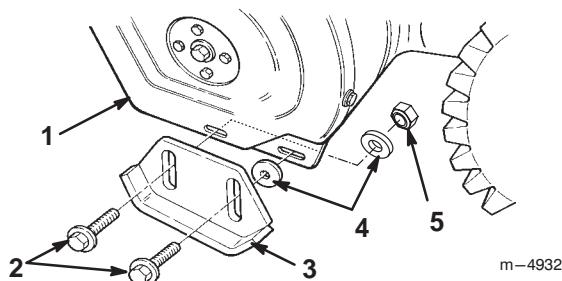

Figure 10
3. Remove the two flange bolts and flat washers that secure the ends of the scraper to the side plates (Fig. 10).
5. Insert a washer *between each skid and the side plate* (Fig. 10). Do not tighten the bolts.
7. Insert a washer and a locknut *behind (on the inside of) the side plate* (Fig. 10). Do not tighten the bolts.